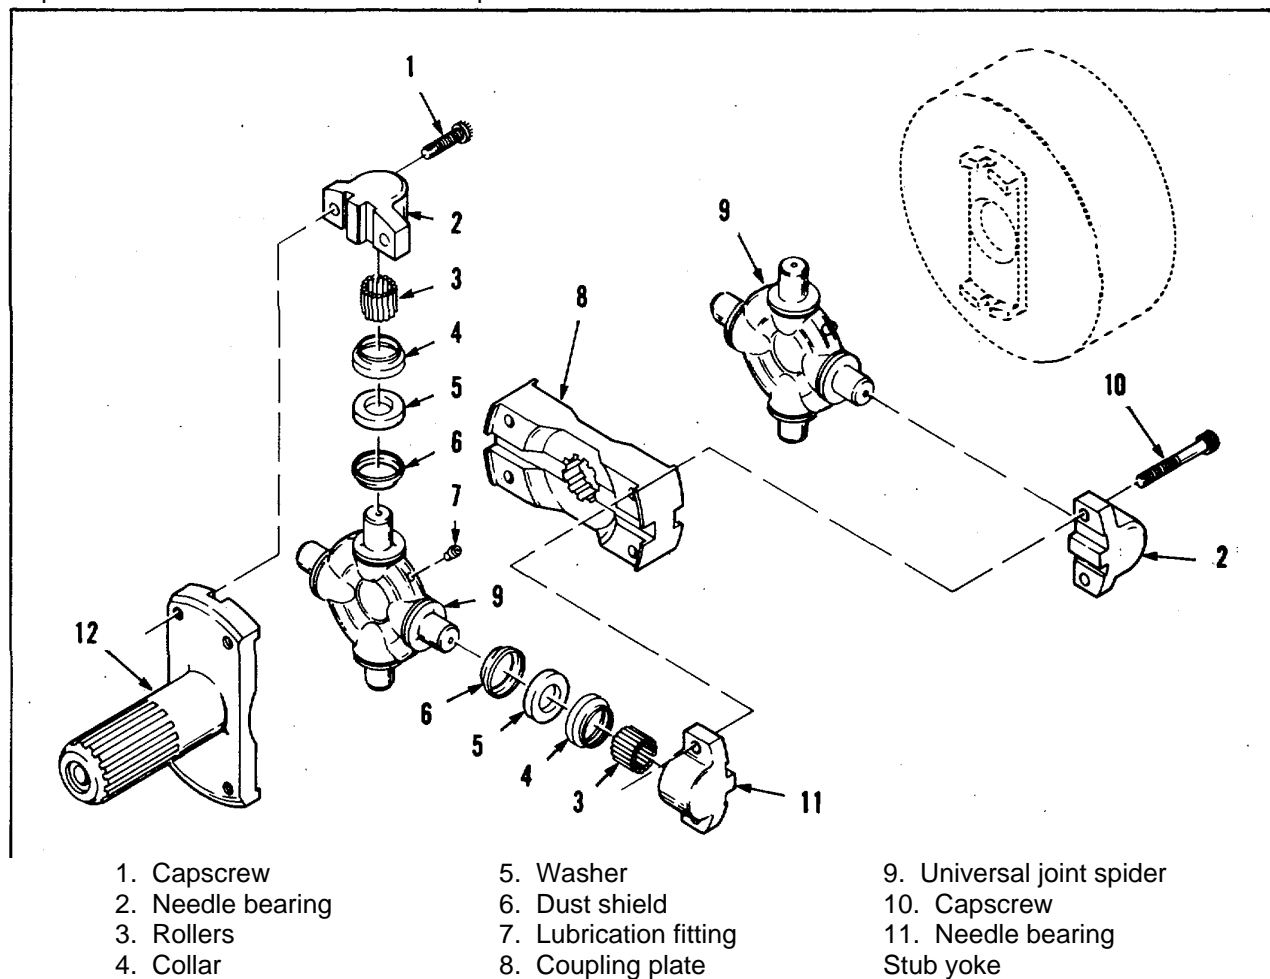

Figure 6-14. Propeller Shaft, Exploded View
(1) Remove lock wire and take out screws (1 and 10, figure 6-14).
(2) Tap or pry stub yoke (12), as needed, to free bearings (2 and 11) from arced pilot surfaces of yoke, and coupling plates (8). Remove bearing (2) with rollers (3), collar (4), cork washer (5), and dust shield (6). Remove rear spider (9).
(3) Pry coupling plate from front spider (9) and pry spider from handbrake' drum to free remaining bearings. Remove bearings. Discard cork washers (5).
b. Cleaning. Clean all parts thoroughly in SD. Probe lubrication passages through fitting (7) and spiders, to be sure no foreign matter or hard grease soap will prevent lubrication. Coat reusable parts with
(1) Install stub yoke splined end as far as it will go into transmission output shaft.
(2) Install items 2, 3, 4, 5, 6 and 11 as illustrated horizontally in Figure 6-14, to both spiders (9). Squeeze
(3) Fasten both assemblies to coupling plate (8) with screws (10) and install lock wire as required. Remove C-clamps.
(4) Install items 2, 3, 4, 5 and 6 as shown vertically in Figure 6-14, and compress with C-clamps.
(5) Fasten items assembled thus far to stub yoke with screws (1), slide stub yoke, as assembled, forward to meet handbrake drum of drive axle, and attach drive shaft to handbrake drum with screws. Secure with lock wire and remove C-clamps.